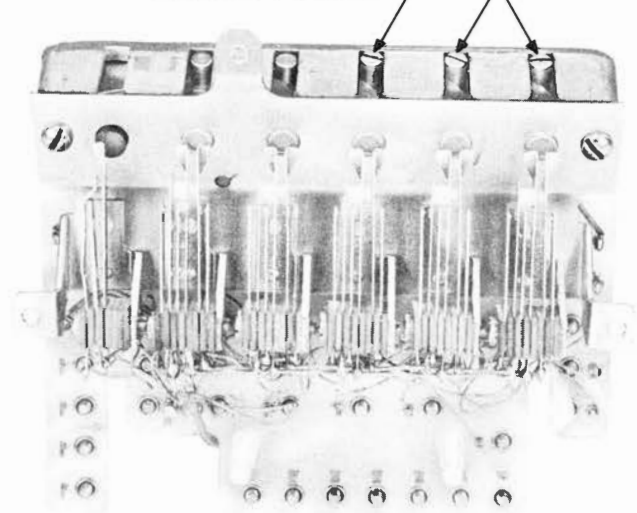

Fig. 1 — 589-Type Key
2.06 The 589Y key (Fig. 1) has conductors on each pickup button which connect to individual wafer sections (Fig. 2). This enables lines to be interchanged between buttons without disturbing the mounting cord at the connecting block.
2.08 Three of the pickup buttons on the 560 and 1560 6-button sets are arranged for conversion to signal. To convert, remove P-12A892 screw detail (Fig. 1) and make necessary wiring changes.